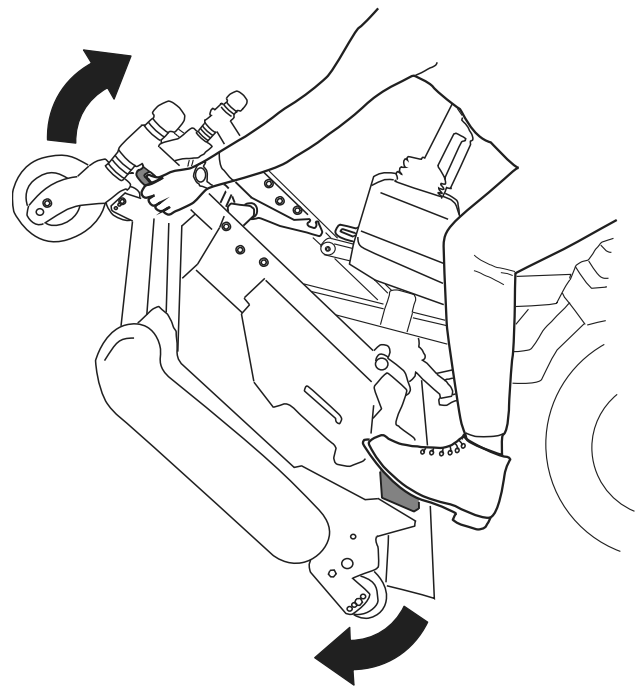
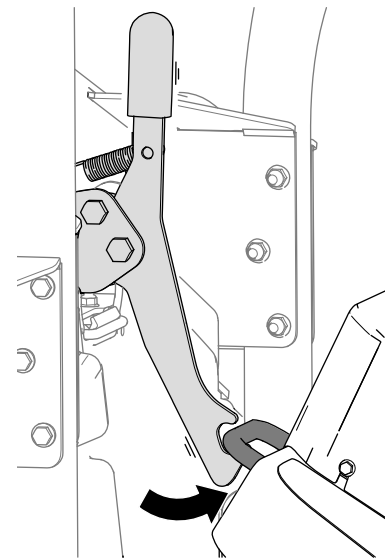

Figure 32
Figure 33
5. Rotate the cutting unit (Figure 32) so that the latch engages with the tie-down bracket (Figure 33).
1. Release the cutting-unit latch from the tie-down bracket (Figure 34) by rotating the cutting unit slightly forward (refer to Figure 32) and pulling the latch handle forward.